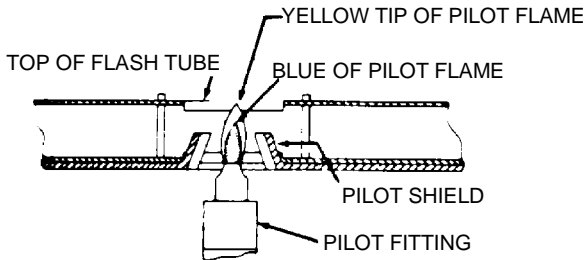
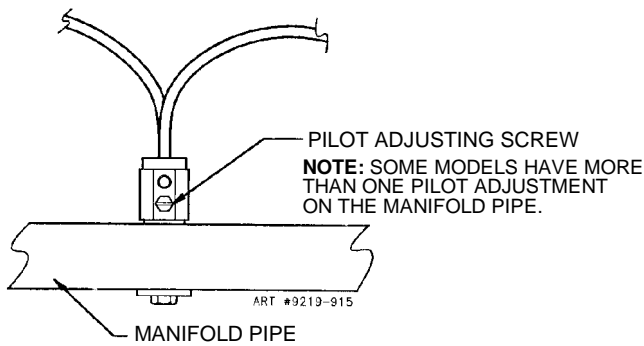

FIGURE 4
FIGURE 5
Purge all air from supply system by turning on one top burner valve. Then turn off valve and adjust top pilot flame using pilot adjusting screw (figure 5) so that flame is even with top of flash tube. See figure 4. To light the burner, push and turn top burner knob to the lite position.
- c. Models with standing pilots: Adjust burner pilots. (See figure 5). Turn the selector switch on the face of the thermostat to the LP position.
- c. Models with standing pilots: Adjust top burner pilots. (See figure 5). Turn the selector switch on the face of the thermostat to the Nat. position.